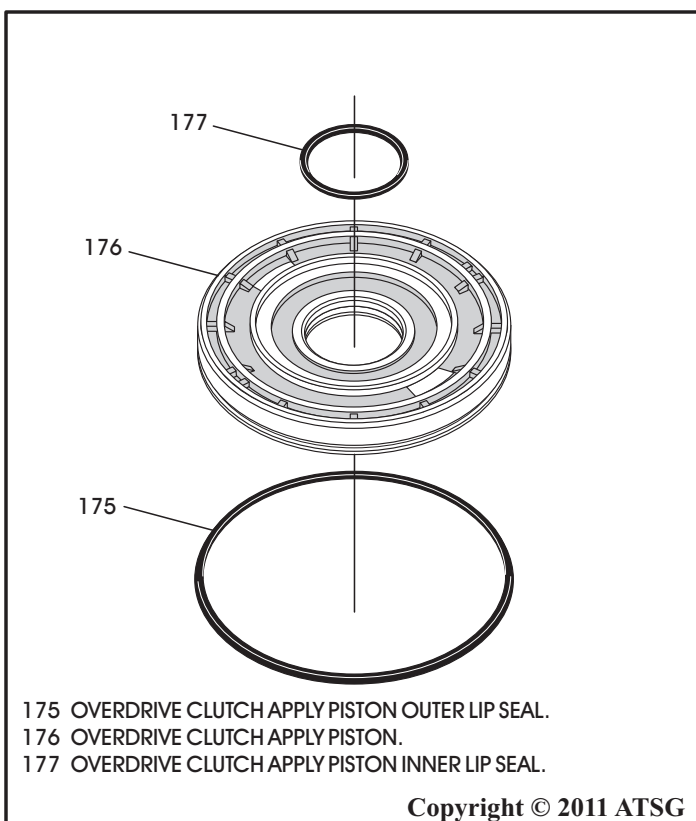

Figure 68
20. Remove and discard the overdrive clutch piston lip seals, as shown in Figure 68.